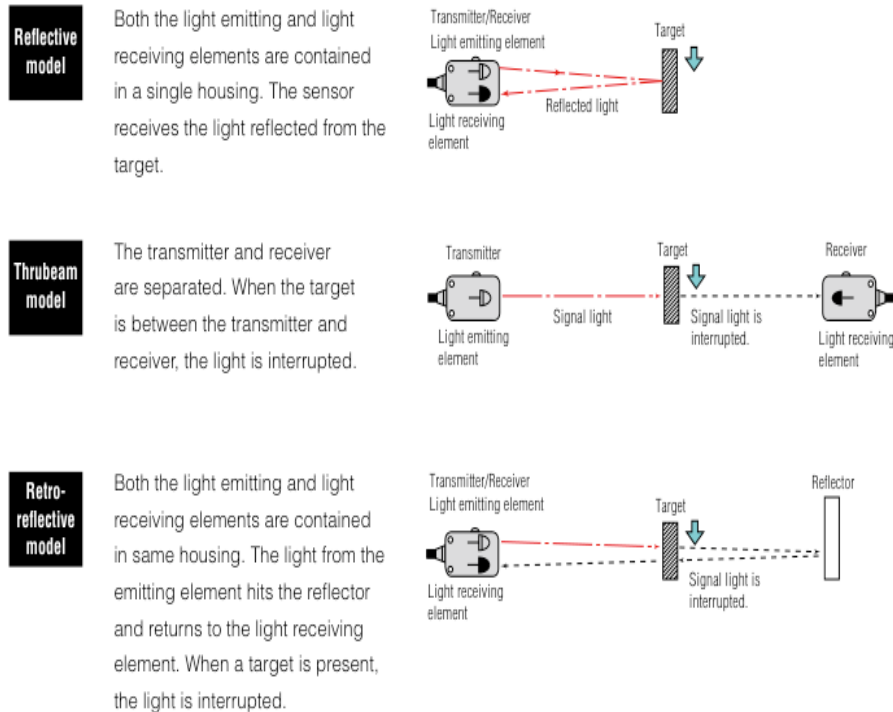

Fig.3 Major types of photoelectric sensors.
2. Principle and major types (Fig.3)